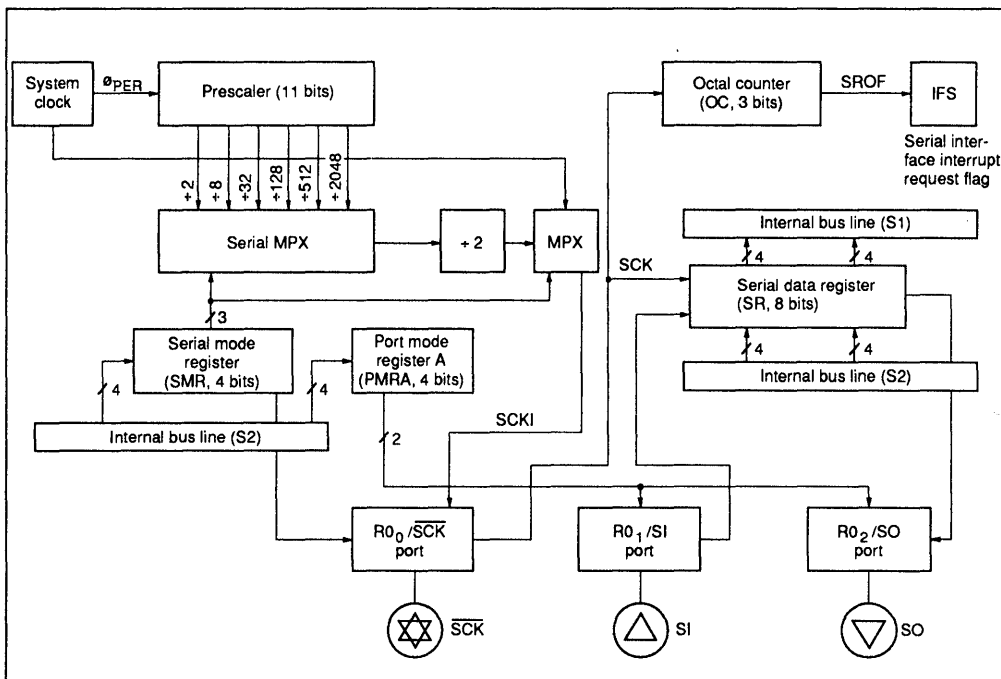

Figure 9 Serial Interface Block Diagram
The serial interface consists of a serial data register (SR), serial mode register (SMR), port mode register A (PMRA), octal counter, and multiplexers (see figure 9). The R00/SCK pin and the transmit clock are controlled by writing to the SMR. The transmit clock shifts the contents of the SR, which can be read and written to by software.